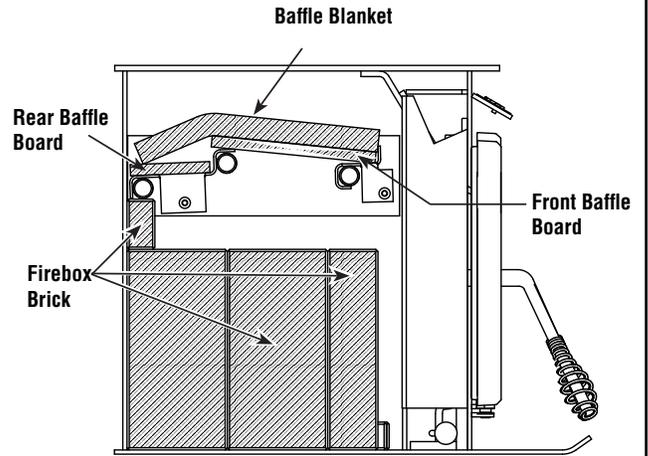

Figure 14
4. The final step of the baffle board & baffle blanket installation will be installing the front baffle boards. The front baffle boards will be the two remaining baffle boards which are the larger two baffle boards of the four baffle board kit. They will be installed with the 7-3/8" dimension from the front to rear of the firebox. Start by setting the back side of the board on the rear baffle making sure that it is placed far enough back to lift up and onto the front baffle. Next you will place the front edge of the front baffle boards on the top side of the front baffle and slide them towards the firebox front until it stops against the front baffle edge. You will do this with each front baffle board with one to the right side of the firebox and one to the left side of the firebox. Confirm that the baffle blanket is directly on top of the baffle boards and that it does not protrude beyond the front baffle or front baffle boards as shown in **Figure 14** (also see note above).